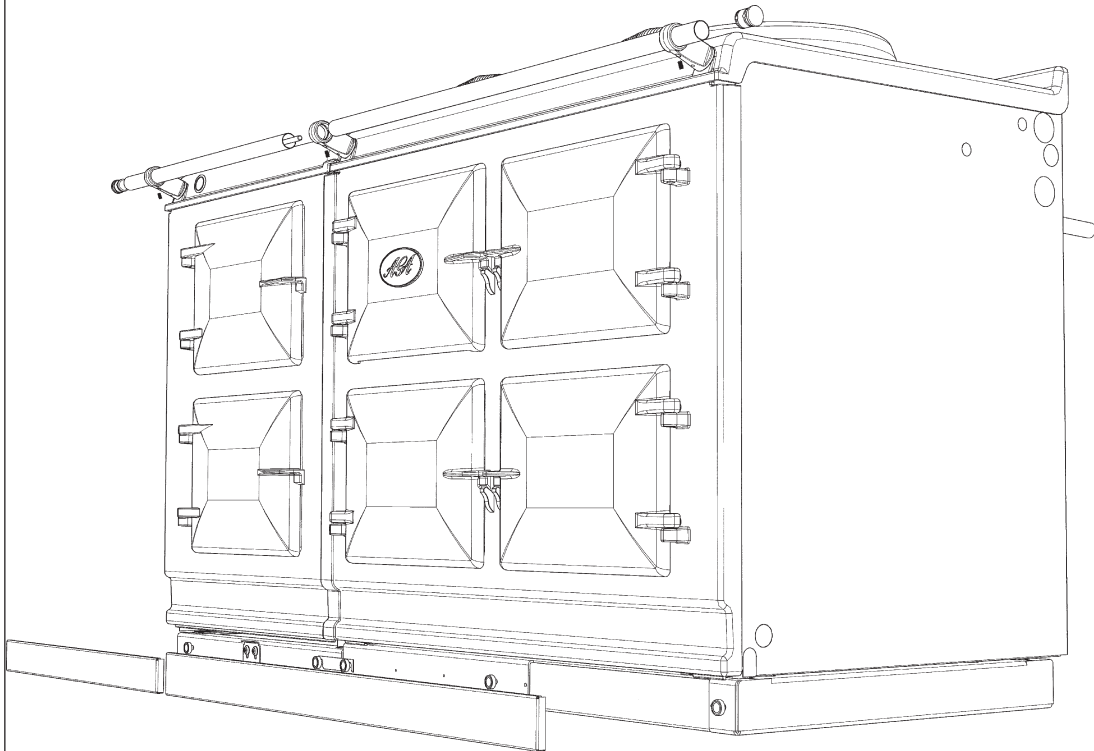

Fig. 17
11. On 5 oven ranges, fit allthread stud into the insert located in the one end of the handrail, then feed the handrail through the bracket (ensuring that the allthread stud is protruding from the right hand side of the hotcupboard handrail) and screw the handrails together. (See Fig. 17).
14. Finally, fit the plinth fascia to the magnets on the front of the plinth, making sure that on 5 oven ranges the right hand side of the module plinth fascia sits against the left hand side of the AGA Dual Control plinth fascia leaving no gap between. Make sure that the plinth fascias are centrally located and do not overhang either range. (See Fig. 17)